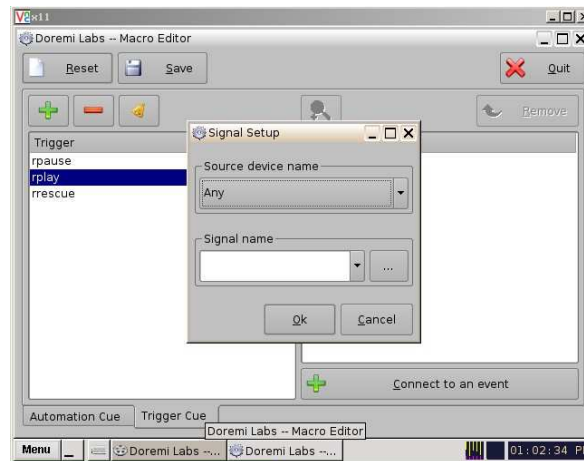

Figure 8.3.4C
3. In the "Signal Setup" pop-up window, left the "Any" in the "Source device name" selection tab and press the "..." button in the "Signal name" field. **Figure 8.3.4C.**